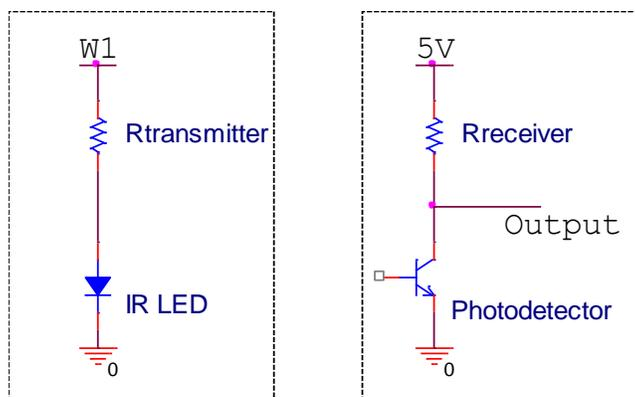

Figure B-2.
- In Figure B-2, each circuit has an active device (LED or photodiode/phototransistor) and a resistor. For LED power, connect to the function generator (W1) and set it up as a square pulse with amplitude 2.5V, offset 2.5V and frequency 10Hz. For the +5V power, use the Analog Discovery DC power supply (Red Wire). Use the scope to monitor the operation of both circuits. In the parts kit, the IR phototransistor is called an IR transistor. There are two devices that look like LEDs but their plastic lenses are black. In the present parts kit, the transistor is the smaller of the two devices. If you use different light sensors, be sure that you check their spec sheets to be sure that you have the correct one. In the Analog Devices ADALP2000 Parts Kit (nearly the same as the Digilent Kit), the two devices look almost identical. The phototransistor has shorter leads, which is often a way that manufacturers identify them. The IR LED has its correct name and is the only device that looks like an LED with a clear lens in your kit. For the transmitter (LED circuit), use a 2.2kΩ resistor.